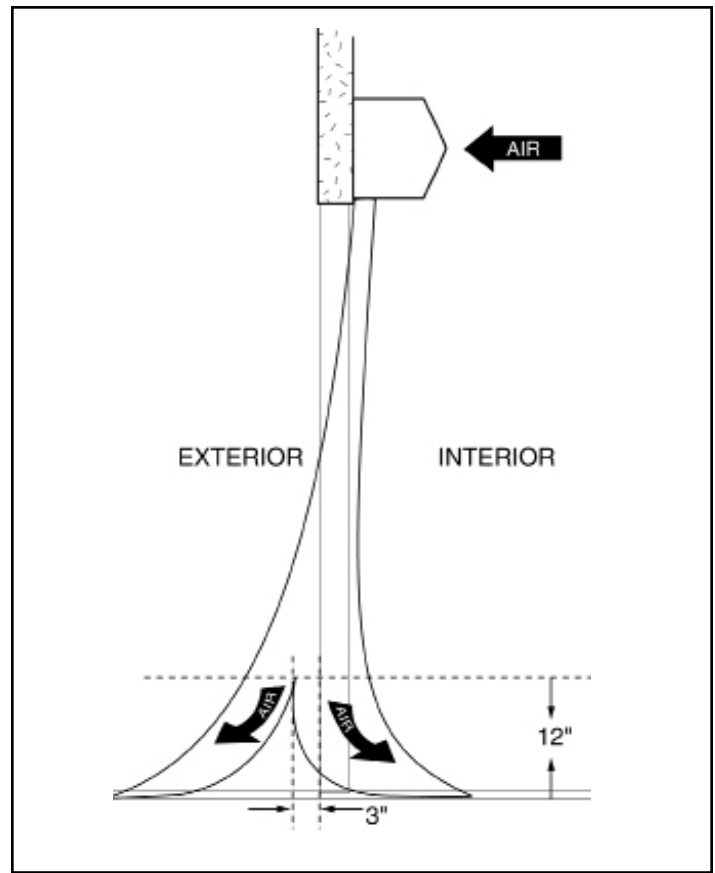
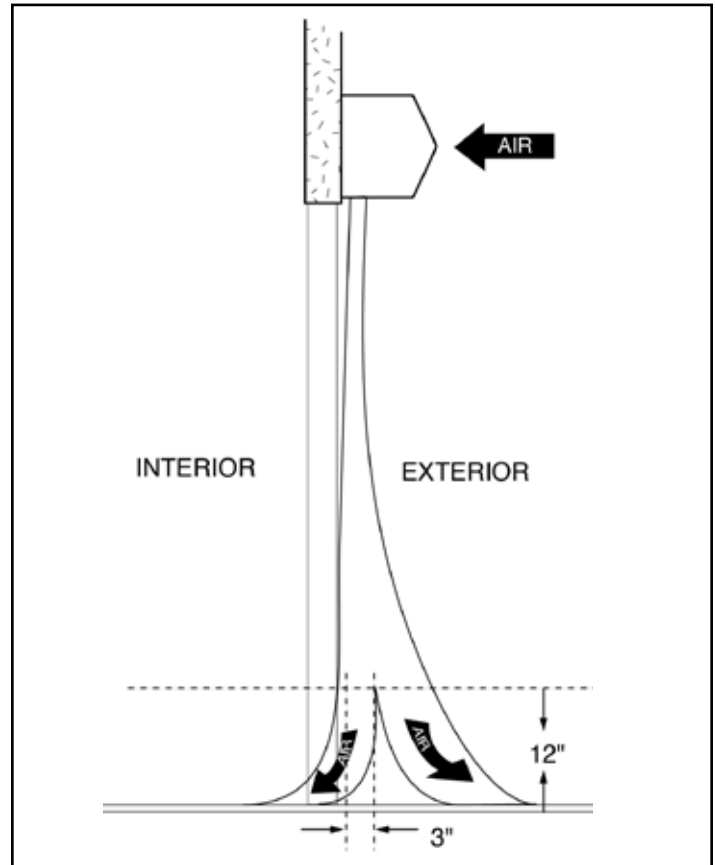

FIGURE 9 - Air Flow Adjustment (INTERIOR MOUNTING)
FIGURE 10 - Air Flow Adjustment (EXTERIOR MOUNTING)
2. Find the air stream split location. Hold a handkerchief, by its corners, approximately 12" above the floor. Gently move the handkerchief back and forth in the doorway. Make sure the air is being directed to both the inside and the outside. The split location is indicated where the handkerchief is vertical with minimal or no fluttering. **See FIGURE 9 and FIGURE 10.**